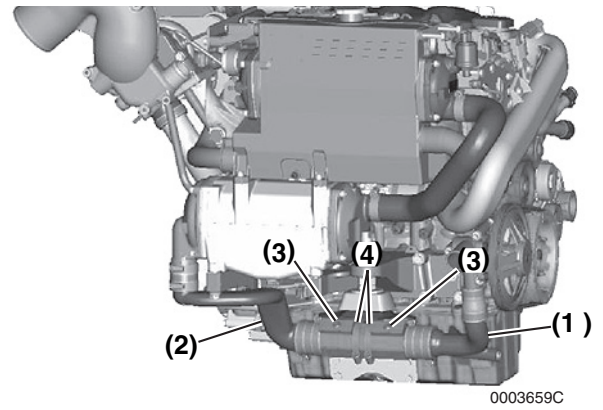

Figure 7-10
2. Loosen clamps and remove seawater pipe (**Figure 7-10, (1)**).
3. Loosen clamps and remove seawater pipe (**Figure 7-10, (2)**).
4. Remove hydraulic lines from ports (**Figure 7-10, (3)**). Allow fluid to drain into an appropriate container. Dispose of waste properly.
5. Loosen clamps (**Figure 7-10, (4)**) completely and remove hydraulic oil cooler.
7. Install cooler and tighten clamps (**Figure 7-10, (4)**).
9. Install seawater pipes (**Figure 7-10, (2)**) and (**Figure 7-10, (1)**). Tighten clamps securely.